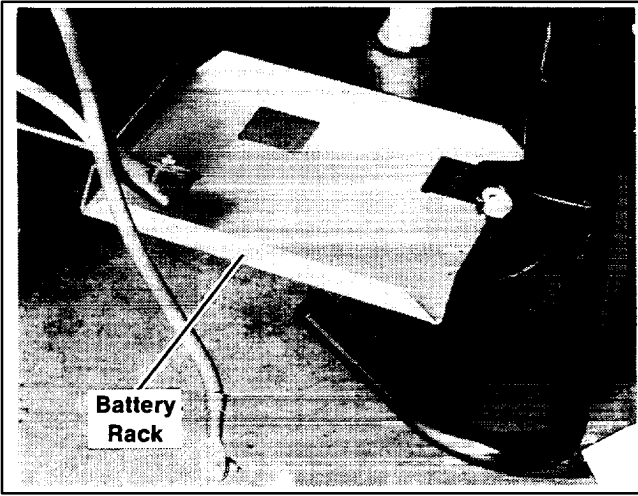

Figure 1. Battery Rack Location
2. Install battery rack (228601) on frame as shown in Figure 1.